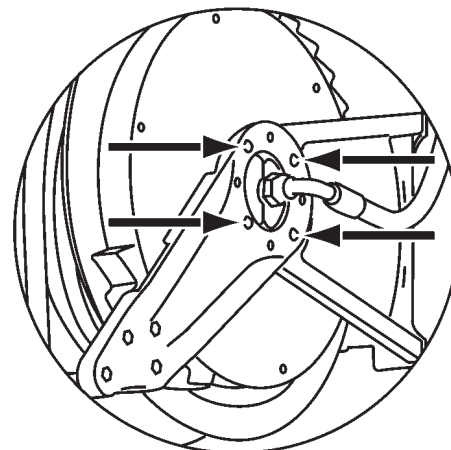

Fig. 5
3. Unscrew the fixing screws (fig. 5).